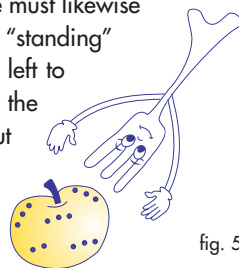

fig. 5
- 4) **Foods having a skin, shell or peel (e.g., apples, potatoes, tomatoes, frankfurters, fish) must be pierced with a fork in several points so as to permit steam to escape and to prevent those items from exploding (see Fig. 5).**